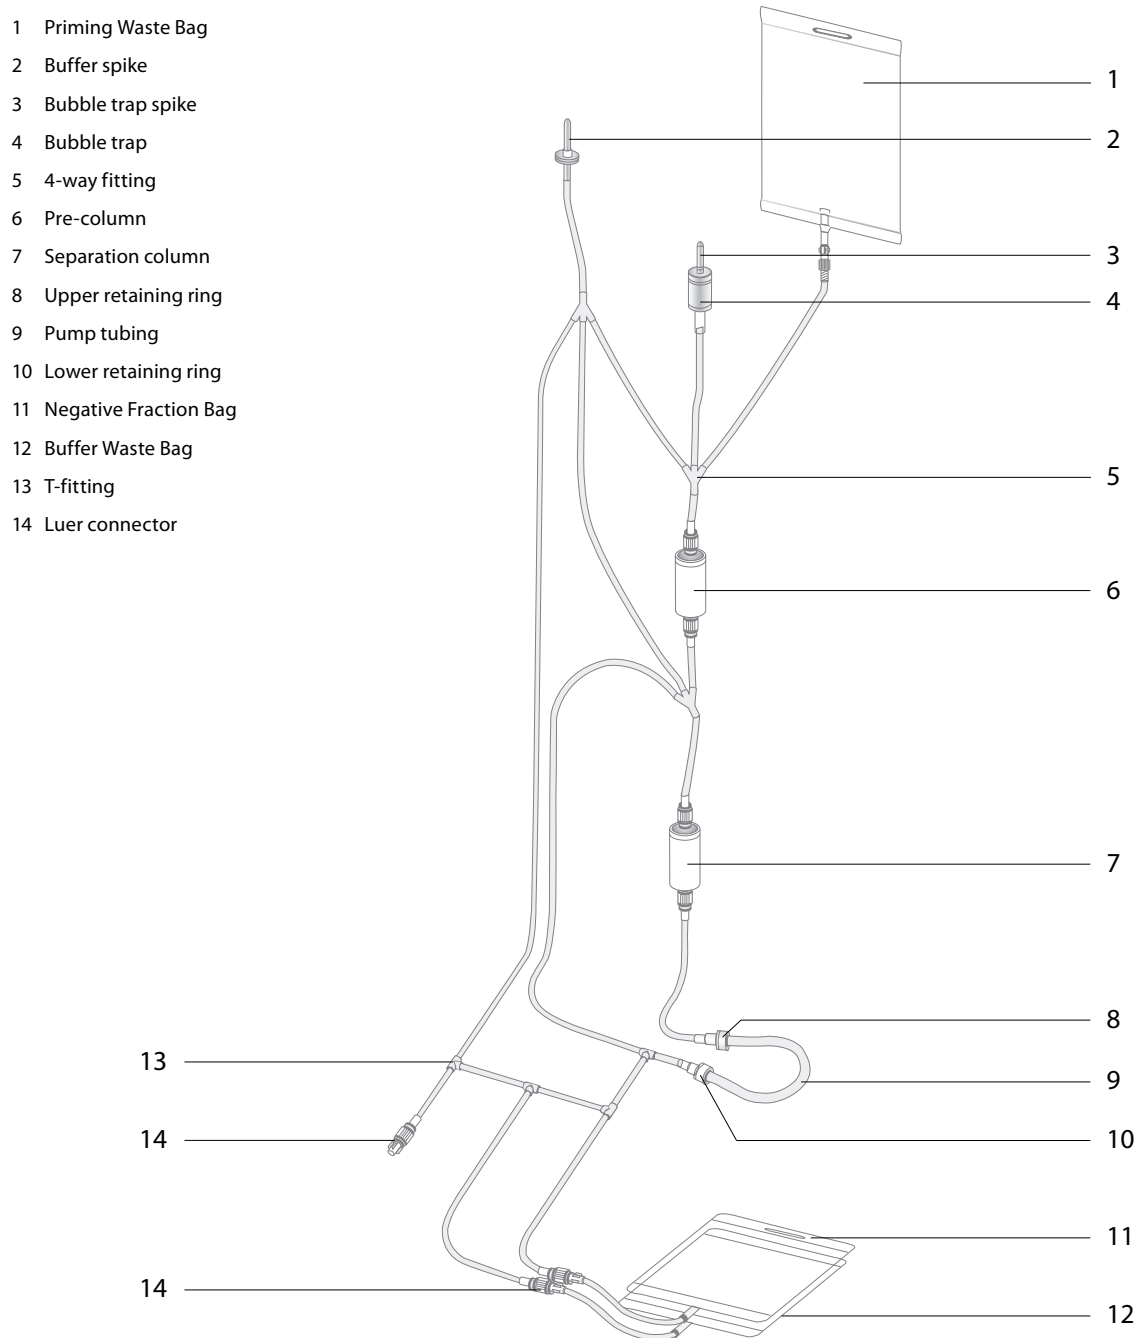

Figure 4: General construction of a CliniMACS® Tubing Set for Research Use (# 165-01).
The CliniMACS® Tubing Set for Research Use and the CliniMACS Tubing Set LS for Research Use are provided in a sealed, sterilized package. Each tubing set contains pre-assembled tubing and columns for one cell separation (see fig. 4). When the packaging is intact, a sterile fluid path is provided.
1. Using aseptic techniques, remove the cap from the buffer spike on the tubing set (2, fig. 4) and connect it to the buffer bag. Ensure that the septum is punctured, allowing free flow of liquid. Gently squeeze the bag to confirm that the spike has penetrated the bag. If more than one liter buffer is necessary for a separation, connect the buffer bags using a plasma transfer set.